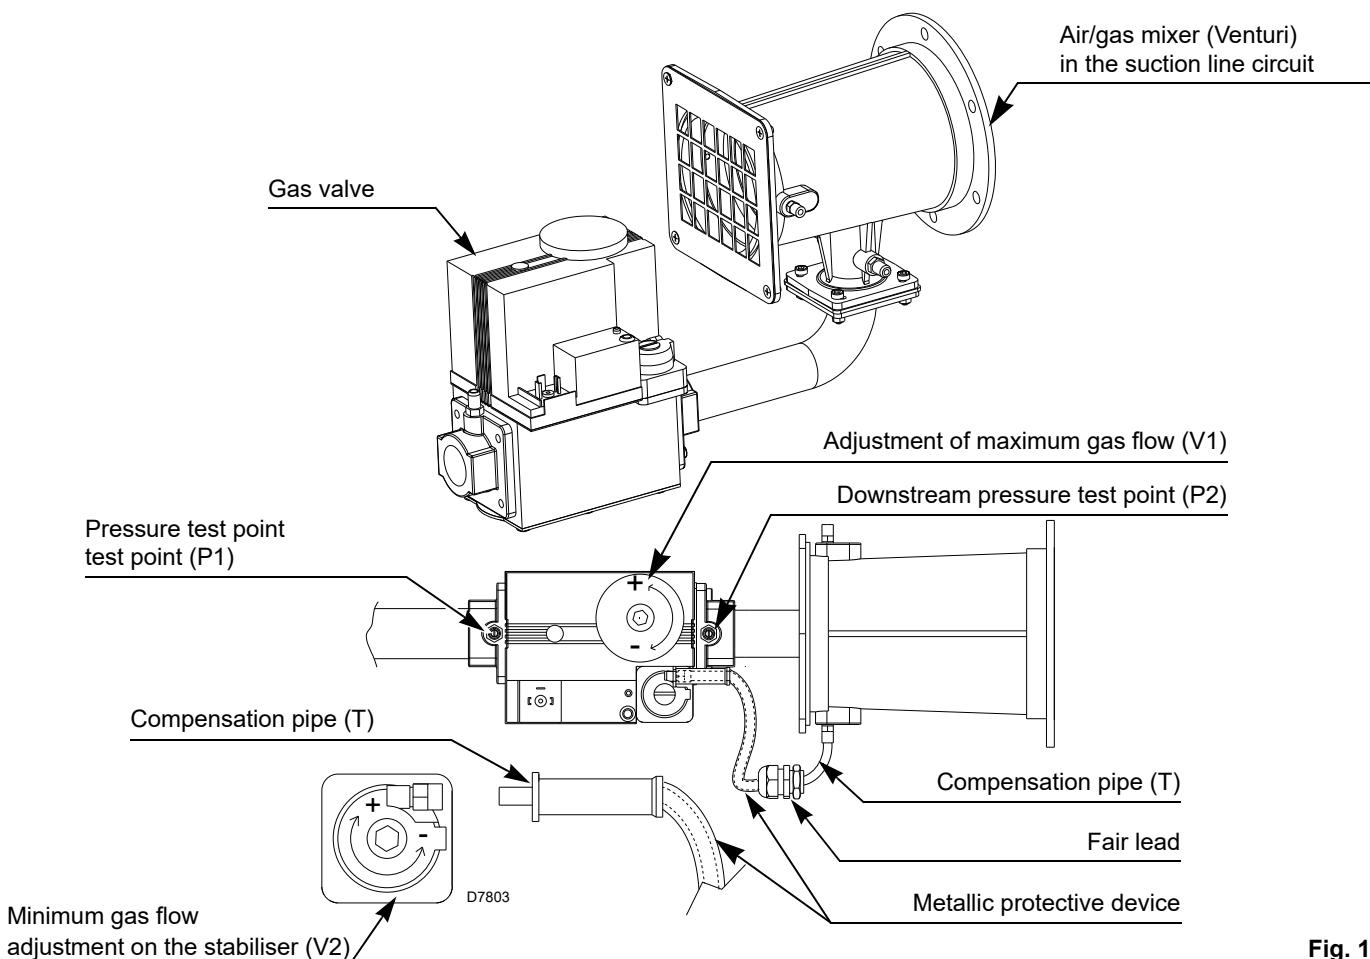

Fig. 19
The pipe (T)(Fig. 19) between valve-Venturi allows compensation to occur for accidental occlusion of the suction line due to a reduction in gas delivered.
- bleed the air from the gas pipes using the screw on the socket P1)(Fig. 19 on page 22).
Turn the screw V1)(Fig. 19 on page 22) on the gas valve mixer slightly anticlockwise.
The adjustment of the gas output is achieved by using the two screws V1 and V2 (Fig. 19 on page 22).